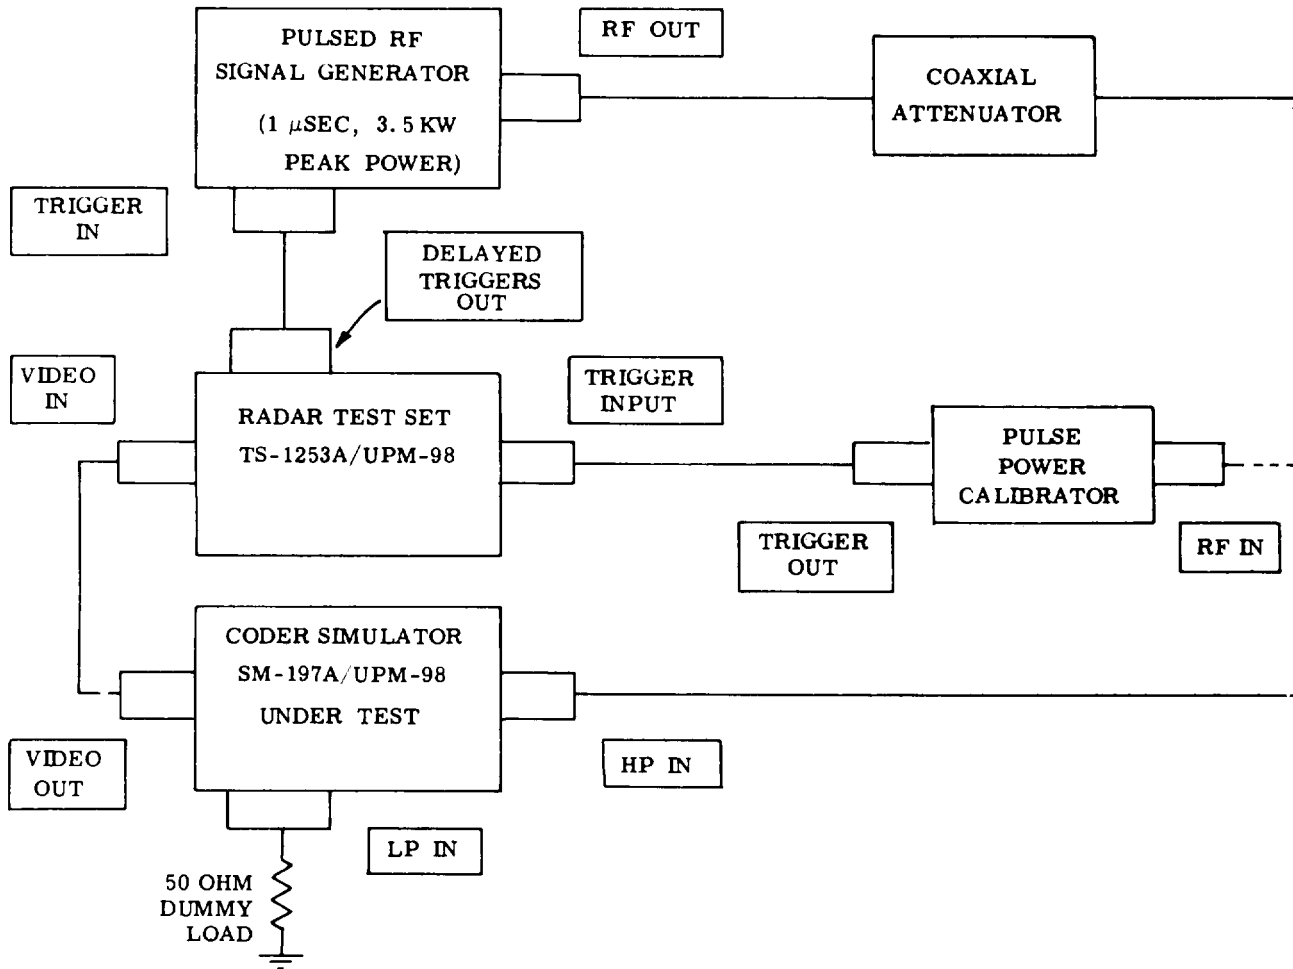

Figure 5-19. Demodulator Assembly 8A4, Calibration Test Equipment Setup
Step 1. Connect Radar Test Set AN/UPM-98A and test equipment as shown in figure 5-19.